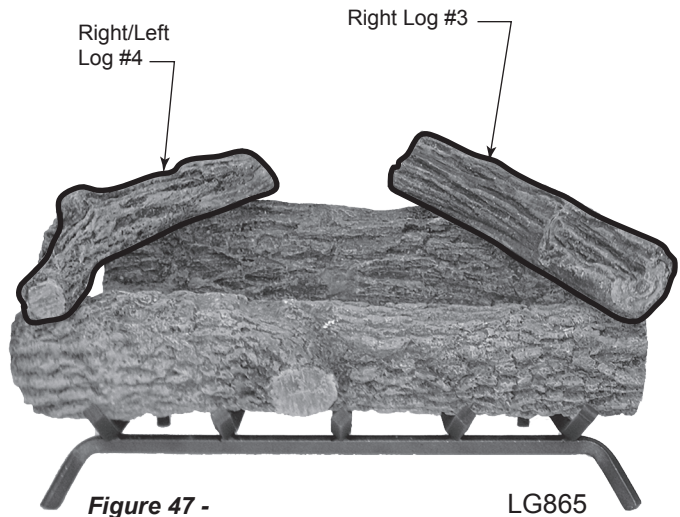

Figure 47 - Place Right and Right/Left Log
3. Position Right Log #3 on top right of Log #1 and Log #2. *Figure 47*
4. Place Right/Left Log #4 on top left of Log #1 and Log #2. *Figure 47*